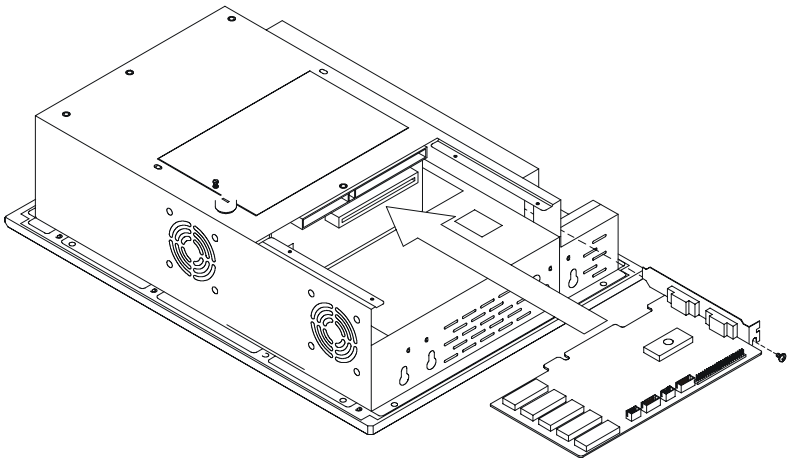

Figure 2-10: Installing an add-on card
2. Take away the adapter bracket by detaching the screw which is mounted in the little box (see Fig. 2-10).